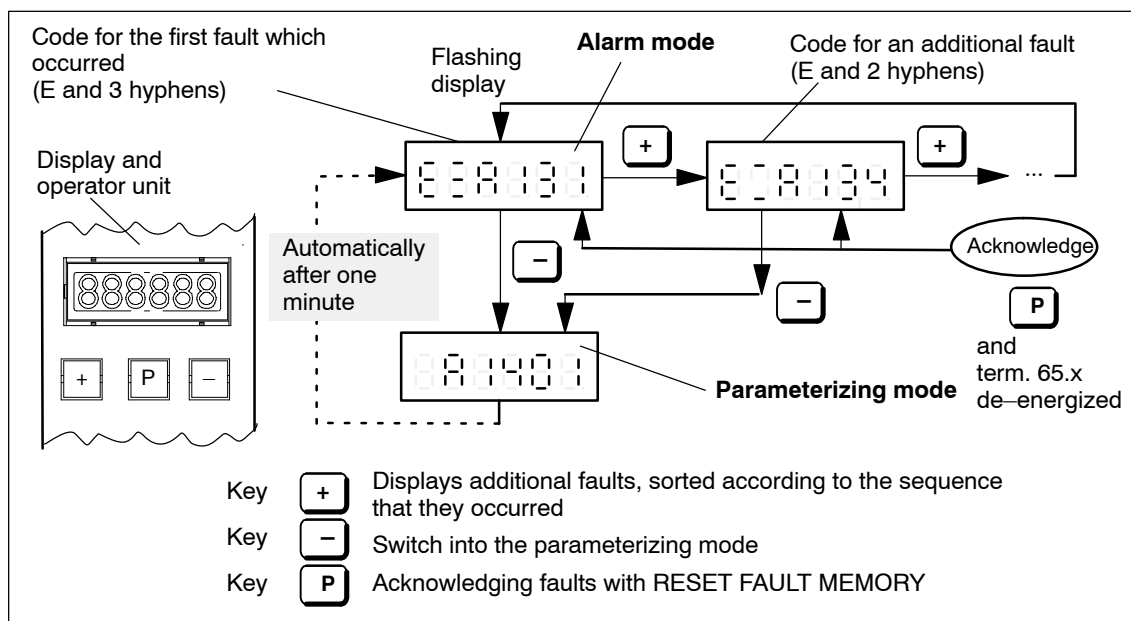

Fig. 7-2 Operator control, if several faults have occurred
2. This is what it looks like if several faults have occurred (refer to Fig. 7-2).